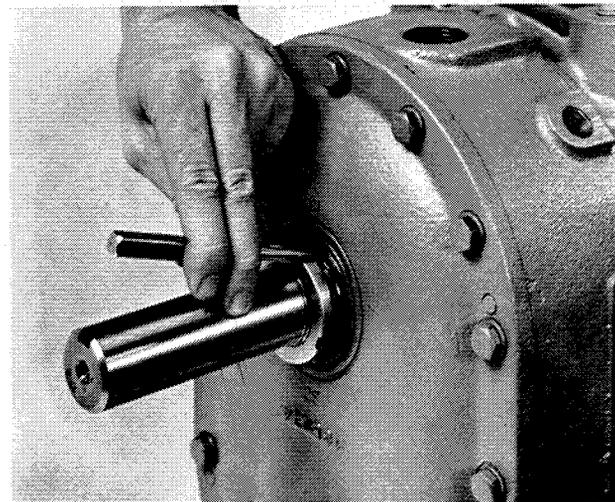

FIGURE 11
- j. Move to drive end of blower. Locate the tang of the spider washer (21) which was bent into slot of lock nut (22). Bend the tang out of the lock nut slot using pin punch and hammer (see Fig. 11).